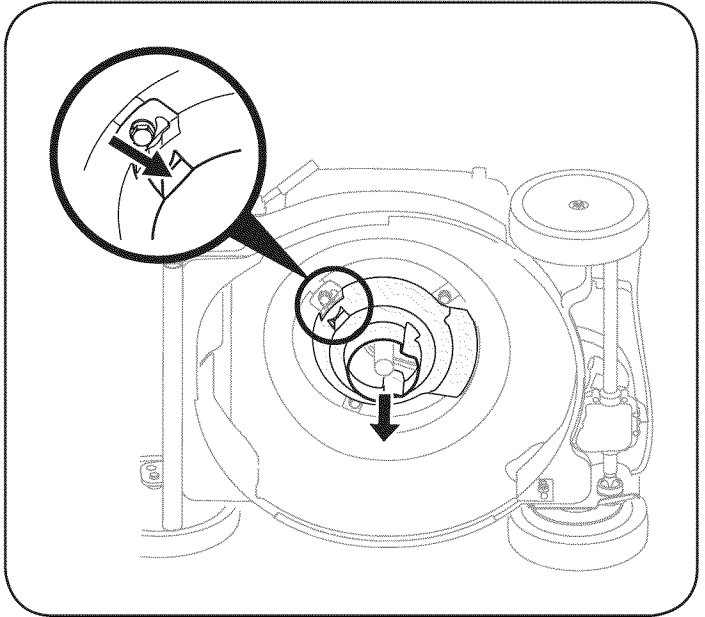

Figure 19
4. Press inward on tab on the engine baffle to release it from the baffle bracket. See Figure 19.